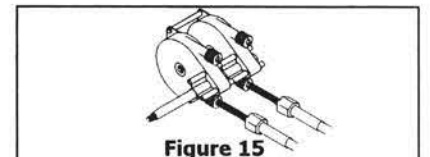

Figure 15
STEP 2. Feed the cable ends into the LOWER entry spigots, keeping the conduit fittings aligned, until they contact the internal gears. Then turn the steering wheel to draw the cables fully into the helm. Continue turning the steering wheel until the conduit end fittings are flush with the entry spigots (see Figure 15).